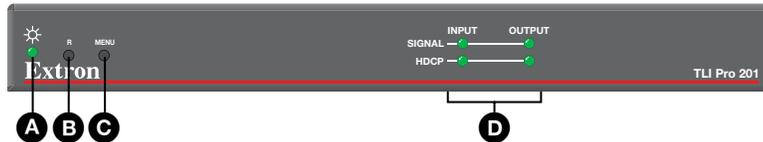
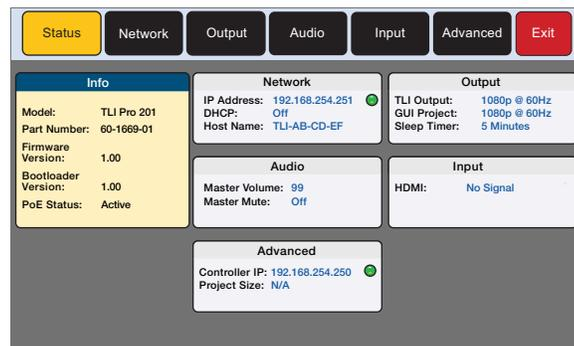

Figure 4. TLI Pro 201 Front Panel
Figure 5. Setup Menu
- **Use Factory Firmware:** Press and hold the **Reset** button (see figure 4, B, on page 3) while applying power to the unit. Use this mode to replace firmware in the event of firmware failure.
Press the **Menu** button (see figure 4, C, on the previous page) to open the setup menu (see figure 5). There are six available screens that are selected by pressing the appropriate button in the navigation bar at the top of the screen.